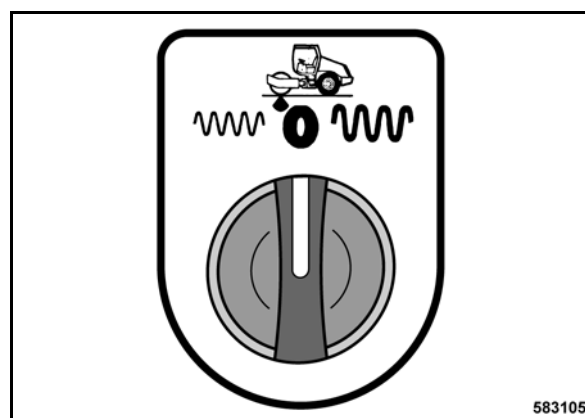

Fig. 66
- After the end of work turn the vibration amplitude preselecting switch (Fig. 66) back to position "0".